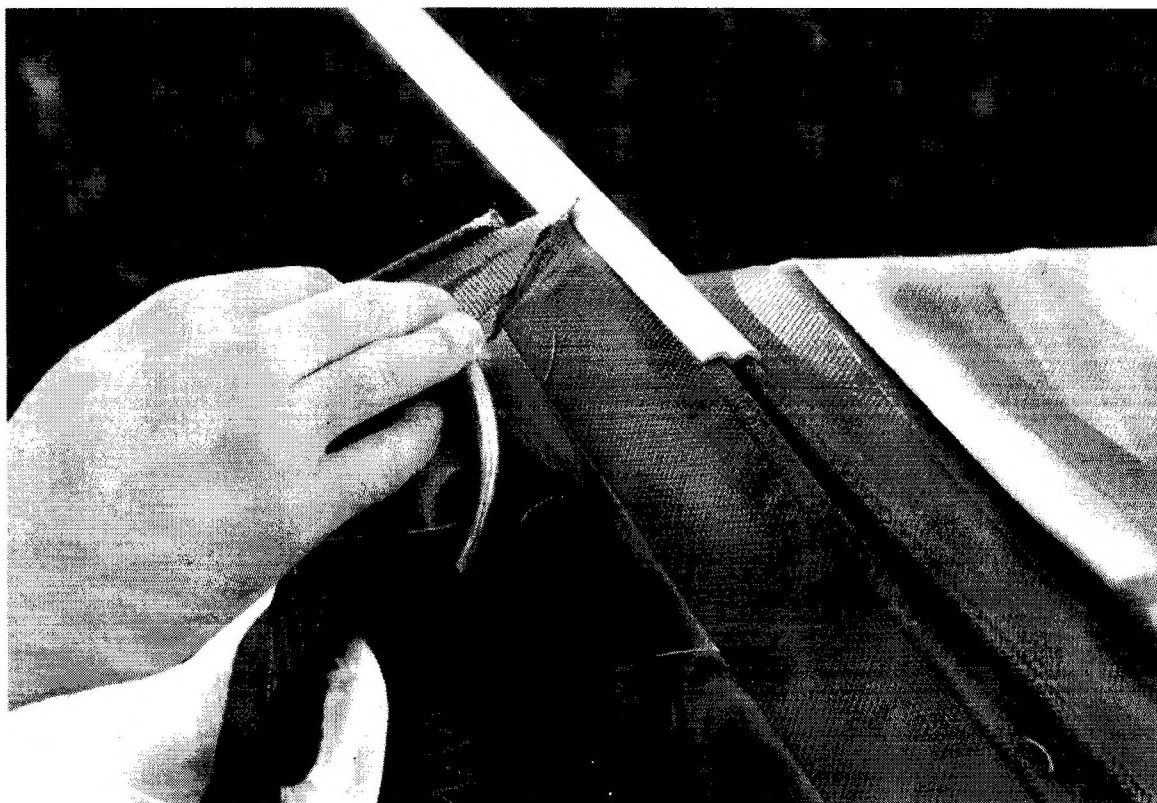

Figure 17: Adjusting flap positions at joints
25. Inserting the keder rail is a two (2) person operation, insert the rail from above (see Fig 17 below) whilst a second person holds the keder beads together, this allows the rail to slide freely. Keder rails are fitted to each end of the roof (J11/8340-99-380-1742) (Qty 1 in each roof section, total 2 in the roof), one after the other and pushed into place so that they are just short of the eave and apex positions Fig 18.